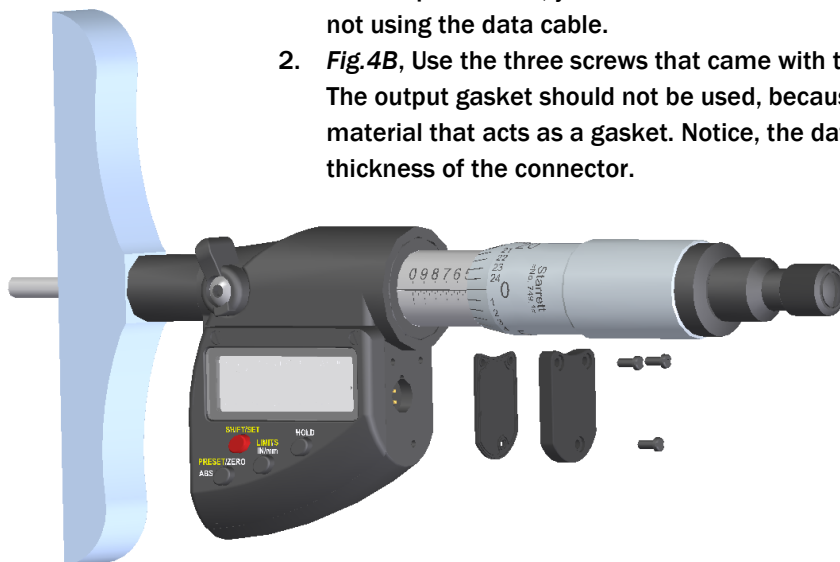

Fig.4A
- Fig.4A*, remove the three screws, output cover and output gasket from the tool. Put the parts aside, you will need them to cover the output hole when you are not using the data cable.